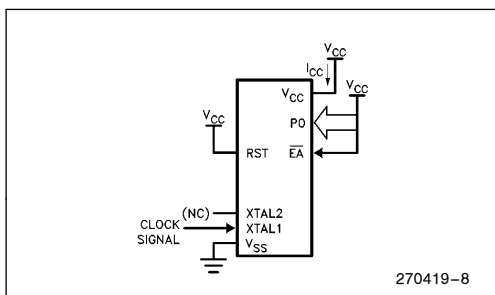

Figure 7. I_{CC} Test Condition, Active Mode. All other pins are disconnected.
6. See Figures 7 through 10 for I_{CC} test conditions. Minimum V_{CC} for Power Down is 2.0V.